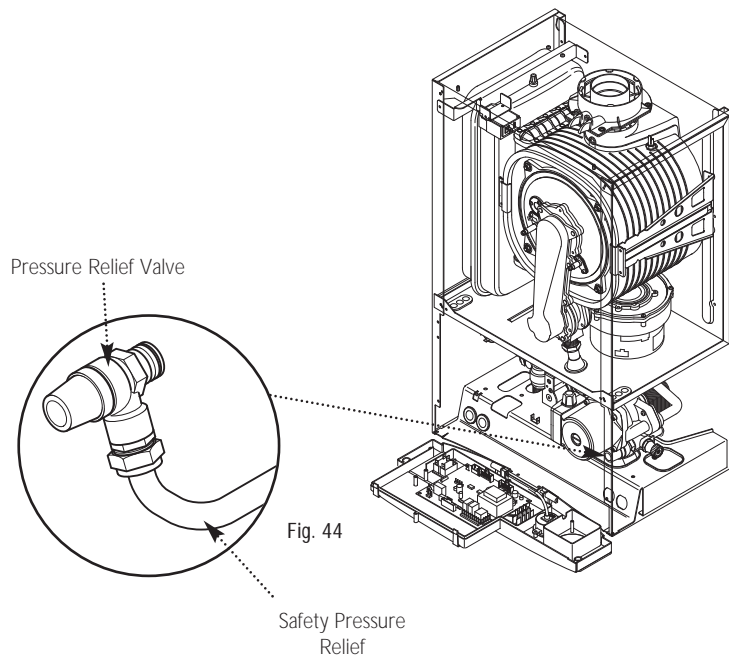

Fig. 44
10.4 Fitting the Safety Pressure Relief Discharge Pipe (Fig. 44)